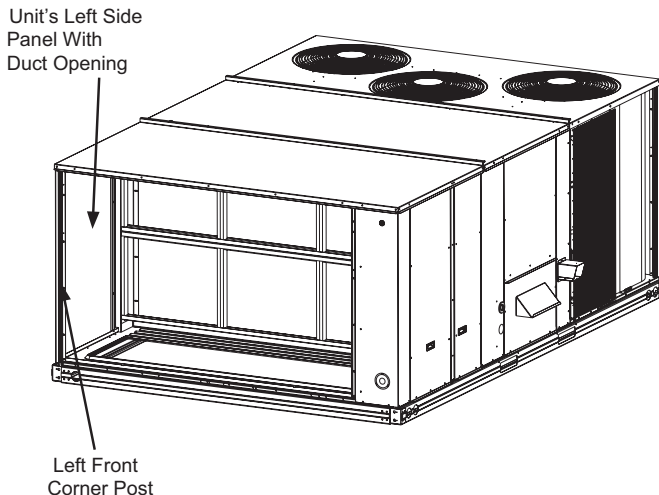

Fig. 16 — Remove Unit Corner Post and Side Panel
4. Remove left side corner post and left side panel from the unit to allow for easy economizer installation. (See Fig. 16.)